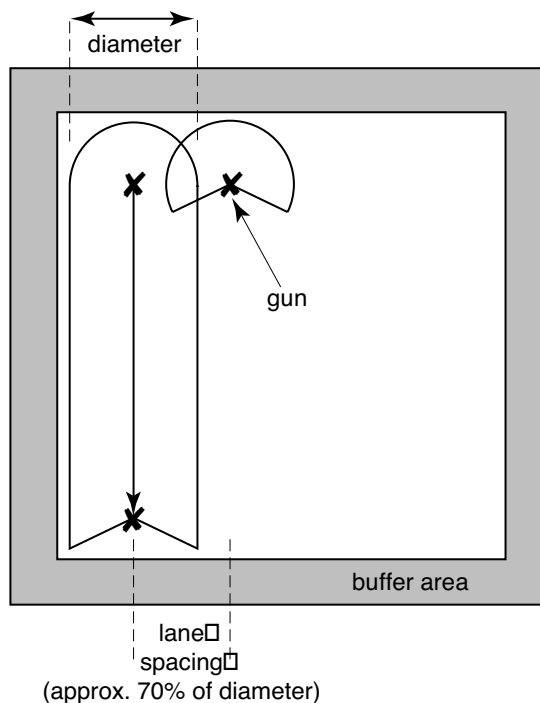

Figure 1. Traveling gun layout
****Travel lane spacing** should be 70 percent (0.7) of the nozzle throw diameter for uniform wastewater application. See Figure 1 for a typical traveling gun layout.
**The travel lane spacing should be approximately 70 percent of the sprinkler's coverage diameter. The coverage diameter can be determined from the manufacturer's literature or by measurement. Refer to Figure 1 for a diagram of a traveling gun layout.